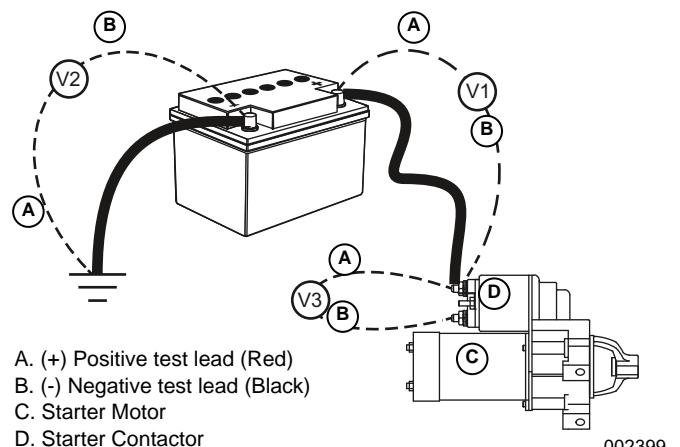

Figure 4-20. Starter Circuit Voltage Drop Test
5. Refer to battery post and starter connections in **Figure 4-20** and perform a voltage drop test as indicated.
7. Record readings from test points V1, V2, and V3 as depicted in **Figure 4-20**. Although resistance-free connections, wires and cables would be ideal, most of them will contain at least some voltage drop. The maximum voltage readings you should see are as follows: